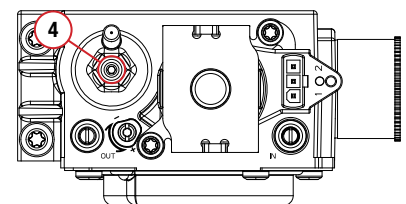

Fig.6.
4. Adjust the servo screw until a small flame is achieved, the flame should be close to extinguishing, turn the servo screw a further 1/4 turn clockwise. (Fig.6)